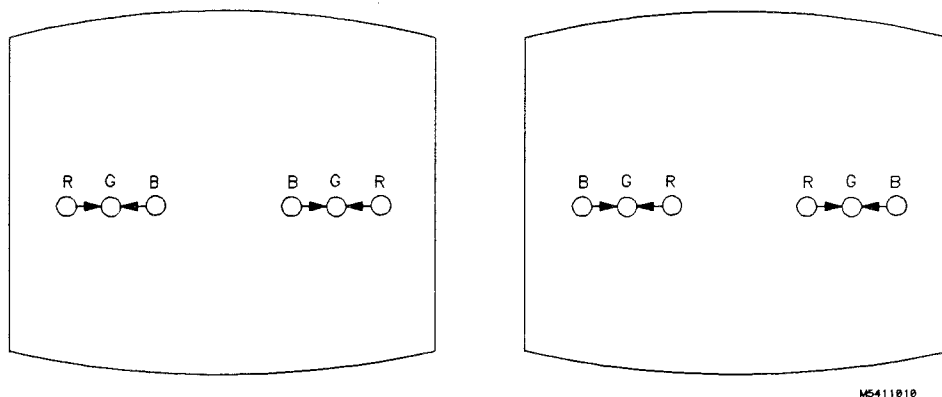

Figure 4-13. H.TILT Adjustment
6. Adjust H.TILT (RV806) on bottom PC board for coincidence of red, green, and blue at right and left sides of screen. Refer to figure 4-13.